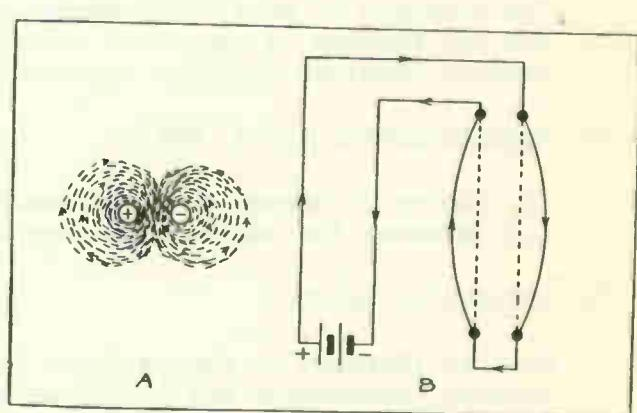

Fig. 4
- a. When current in two parallel wires is in opposite directions the wires tend to repel each other, Fig. 4.